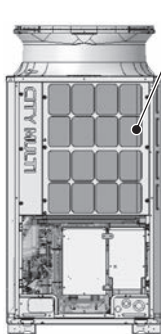

Figure 2
- (1) Remove the front panel from the unit by unscrewing the 8 screws. (See Figure 2.)
- (2) Remove the fin guard by unscrewing the 6 screws. (See Figure 2.)